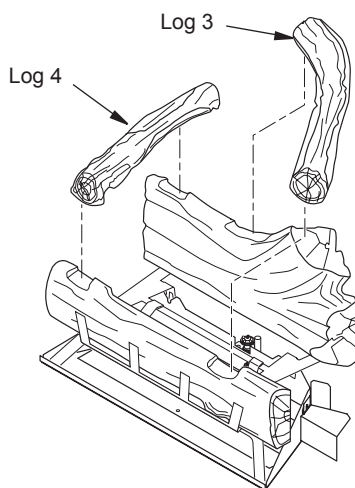

Figure 24 - Installing Log 3 and 4
3. Place log 3 into notches on left side of logs 1 and 2 (see Figure 24, page 16).
4. Place log 4 into notches on right side of logs 1 and 2 (see Figure 24, page 15).